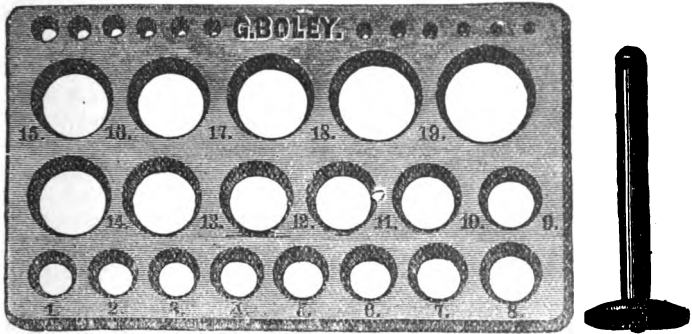

Fig. 1. (Barrel Contractor.)
**Barrel Contractor.**—[*Outil à resserrer les serges de Barillet.* *Federhaus Zusammenzieher.*]—Boley's tool for restoring distorted mainspring barrels to shape, consists of a die with a series of tapered holes, as shown in Fig. 1, and corresponding punches. The defective barrel is placed in a hole of the proper size, as in Fig. 2, and a few light taps from a hammer on the punch quickly will bring the barrel to the desired form, and of a size to suit its cover. It may be desirable to interpose paper between the barrel and the tool, but if the holes have been well polished this is unnecessary. In some instances it will be better to turn out the groove in the barrel afresh, and to shape the edge of the cover to snap in properly. The groove should be slightly undercut, and the edge of the cover formed to suit, but the bevel must not be too sharp, or the cover after snapping in may be loose. Besides its